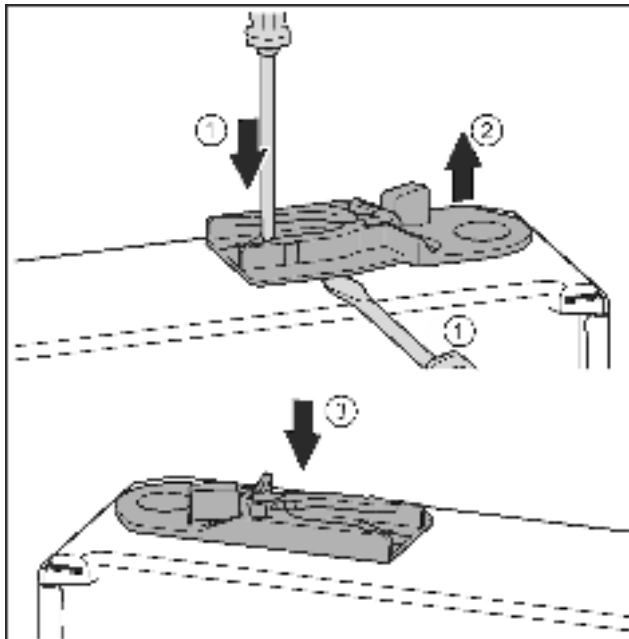

Fig. 32
- Pull out the guide bush: Press the tab with a slotted screwdriver and, at the same time, insert the slotted screwdriver under the guide bush. Fig. 32 (1, 2)
- Slide the guide bush included in the scope of supply to the other side of the housing. Fig. 32 (3)